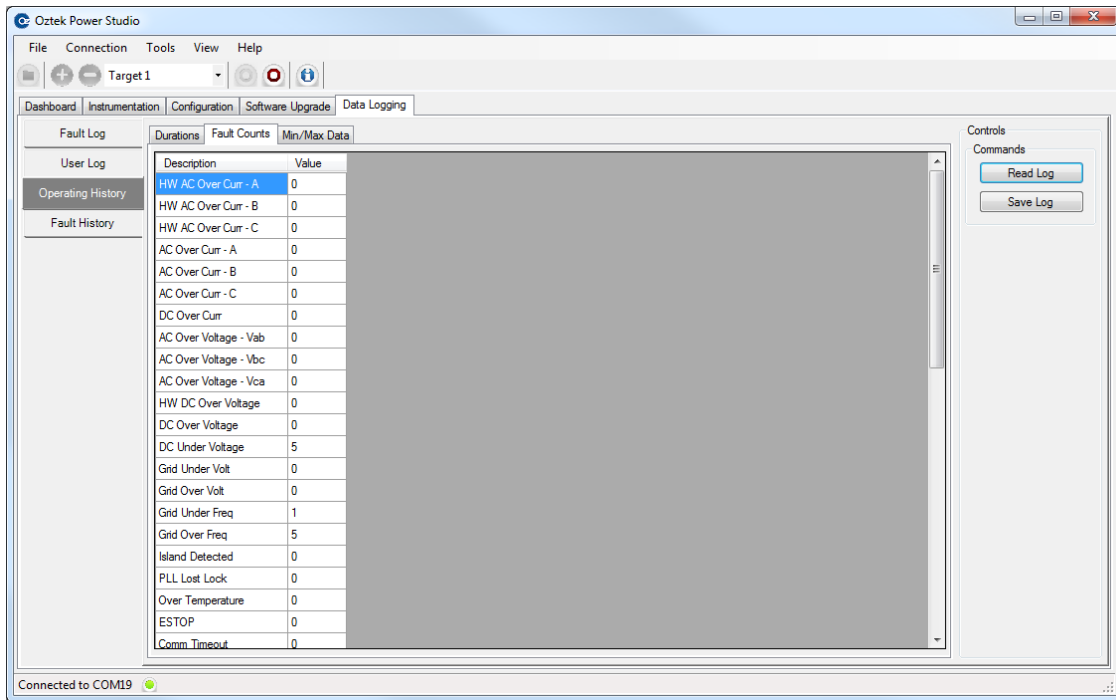

Figure 3 - Operation Log, Fault Counts
- Figure 3 - Operation Log, Fault Counts 6